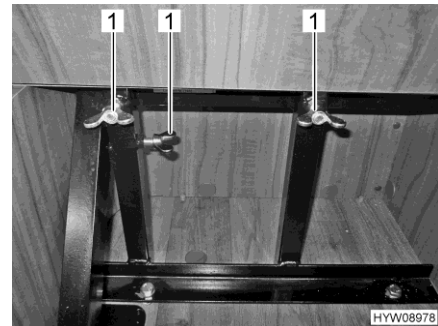

Fig. 30 Secure the attachable seat with wing nuts
- Secure the attachable seat with wing nuts (Fig. 30,1).